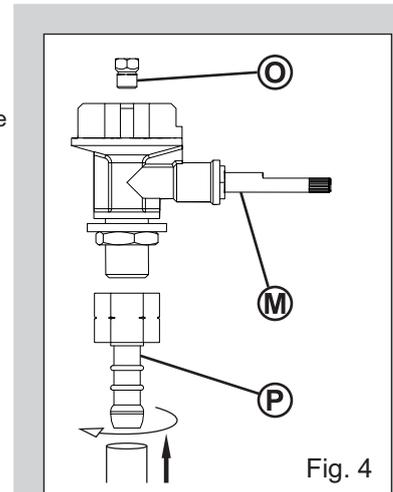

Fig. 4
- I 3B/P (50) Appliance category: (AT, DE)
Screw a Hose with the correct threaded fittings on each end, onto the left hand 1/4" BSP thread of the Valve (O) (Fig.4). Attach a suitable 50mbar low-pressure regulator on the other end of the hose. The hose used must comply with DIN 4815 part 2 or equivalent.